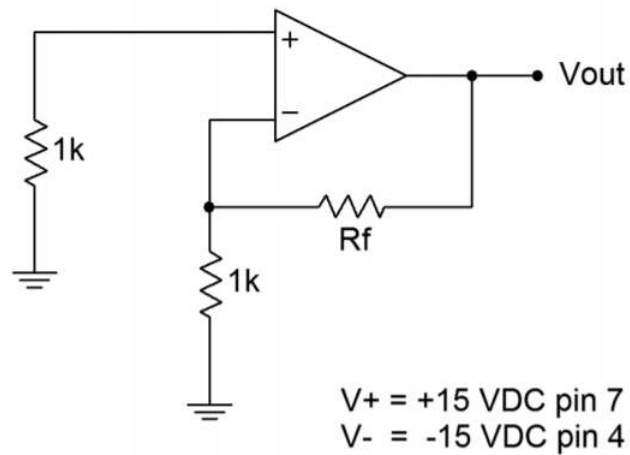

Figure 11.5.1
1. Note that the circuit of Figure 11.5.1 is a non-inverting voltage amplifier. Calculate the voltage gains for the amplifier of Figure 11.5.1 for the R_f values specified, and record them in Table 11.7.1.
3. Assemble the circuit of Figure 11.5.1 using the 4k7 Ω resistor.
9. Build the circuit of Figure 11.5.1 in a simulator using a 741 op amp and 47k for R_f . Run a DC Operating Point analysis to determine the DC output voltage. Compare this to the results measured in Tables 11.7.1 and 11.7.2. Repeat the simulation with all resistors 10 times larger, and again with all resistors 100 times larger.
3. Given the range of adjustment found in Table 11.7.3 along with the data from Tables 11.7.1 and 11.7.2, is it likely that the circuitry of Figure 11.5.1 will be sufficient to correct for the offset produced by a worst case op amp? Explain.